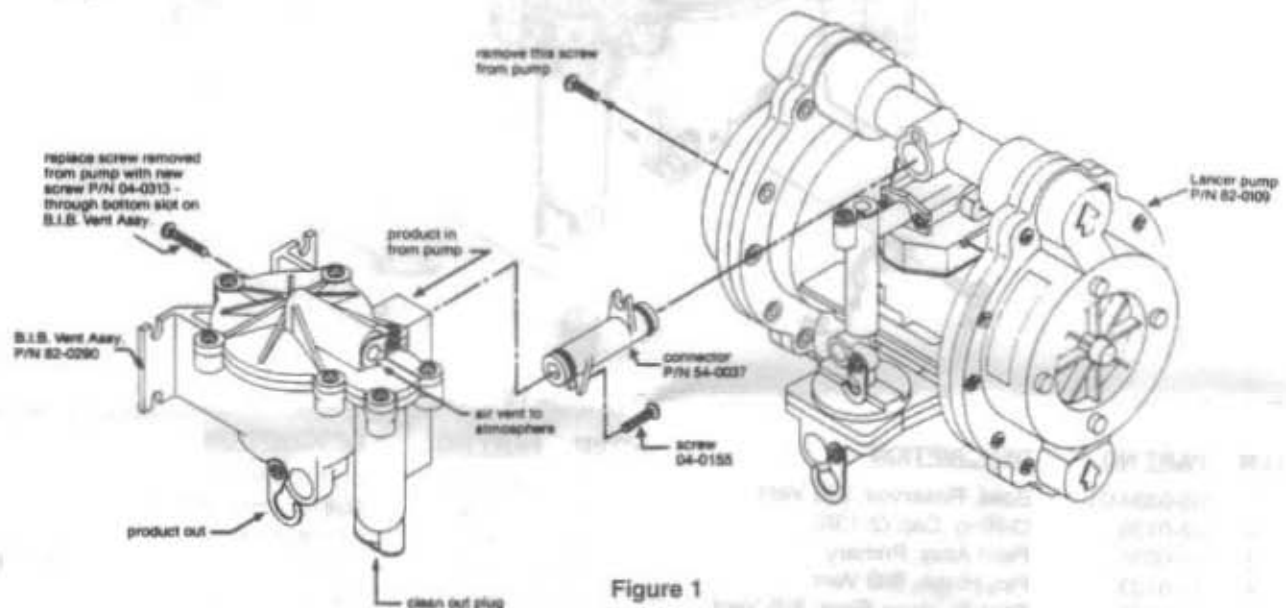

Figure 1
- Remove the screw indicated in Figure 1 from the left hand end cap of the Lancer pump body. Discard screw.
- Assemble connector (PN 54-0037) to "Bib Air Vent" inlet port. Secure with one (1) short screw (PN 04-0317).
- Insert connector into Lancer pump syrup outlet port. Snap fingers over sold-out device. Secure with one (1) short screw (PN 04-0317).
- Align wall mounting leg with screw hole on end cap of pump body. Secure with one (1) long screw (PN 04-0313).